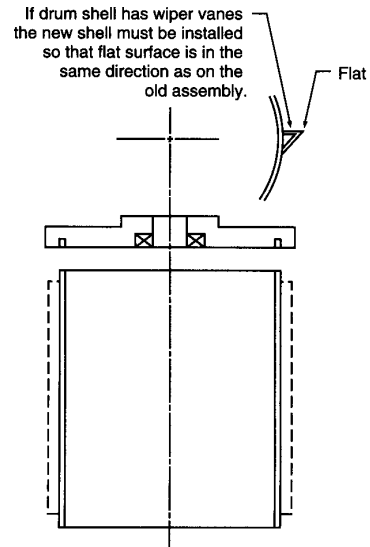

**FIGURE 8**
2. Set drum up in support as shown in Figure 8. Drive end to be down. Remove nuts from studs in the lower flange only.